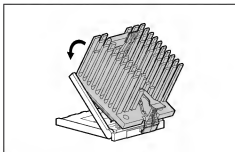

Figure 3-30. Securing the processor and heatsink assembly in the socket
8. Lower the processor socket lever to secure the assembly in the socket, as shown in Figure 3-30.